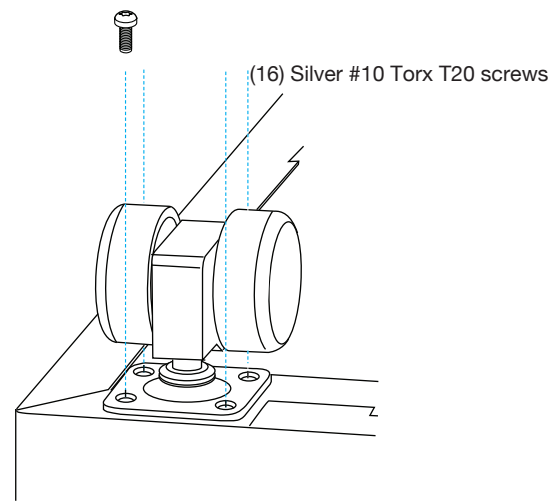

Fig. 1
4. Align caster mounting plate holes with holes in cabinet frame. Fig. 1
5. Fasten each caster with (4) Silver #10 Torx T20 screws. Repeat steps 4-5 for remaining casters. Fig. 1